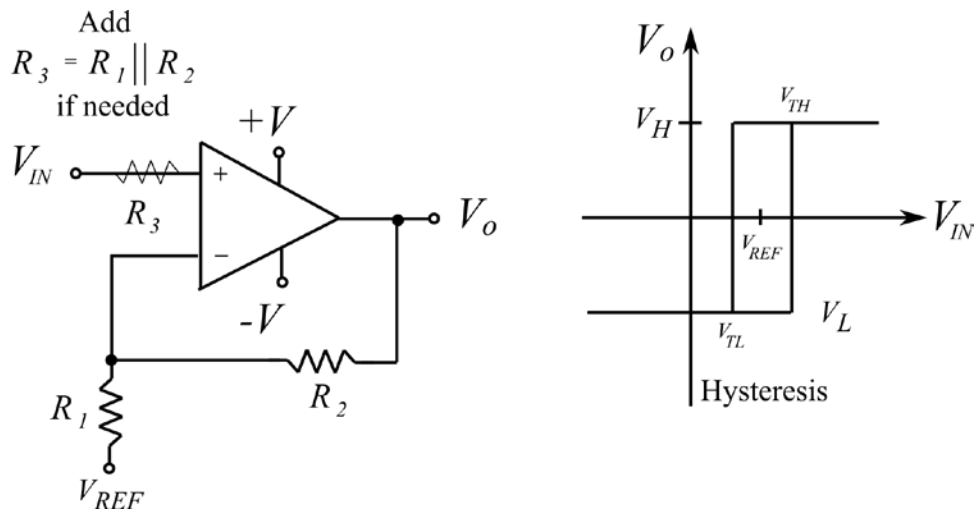

Figure 3: The inverting Schmitt Trigger and its transfer characteristic.
One way to minimize this problem is to apply a small amount of positive feedback to “reinforce” the switching decision. This circuit can be configured for either an inverting or non-inverting output, and is called the **Schmitt Trigger**. Figure 3 shows the inverting Schmitt trigger and its transfer characteristic. The design equations can be found in your textbook.
6. Slightly change the input voltage (adjusted by the potentiometer) and measure the values of  $V_{TH}$  and  $V_{TL}$  and **sketch the Hysteresis of the circuit as in Figure 3.**